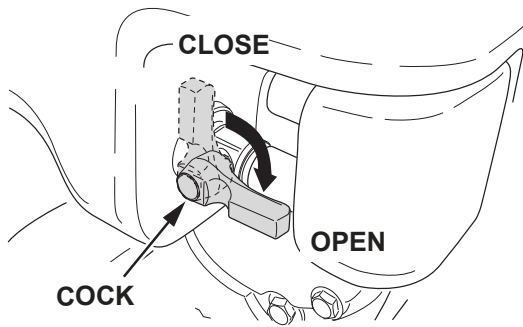

Figure 19. Water Tank Cock (Open)
1. If your unit is equipped with the water tank and your application requires sprinkling work, open the cock of water tank(Figure 19).